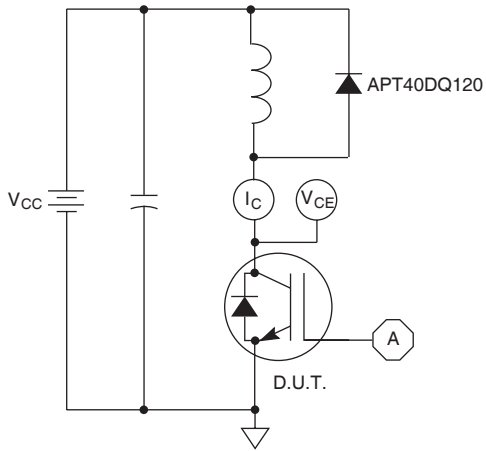

Figure 21, Inductive Switching Test Circuit
- ① Repetitive Rating: Pulse width limited by maximum junction temperature.
- ② For Combi devices, I_{ces} includes both IGBT and FRED leakages
- ③ See MIL-STD-750 Method 3471.
- ④ E_{on1} is the clamped inductive turn-on energy of the IGBT only, without the effect of a commutating diode reverse recovery current adding to the IGBT turn-on loss. Tested in inductive switching test circuit shown in figure 21, but with a Silicon Carbide diode.
- ⑤ E_{on2} is the clamped inductive turn-on energy that includes a commutating diode reverse recovery current in the IGBT turn-on switching loss. (See Figures 21, 22.)
- ⑥ E_{off} is the clamped inductive turn-off energy measured in accordance with JEDEC standard JESD24-1. (See Figures 21, 23.)